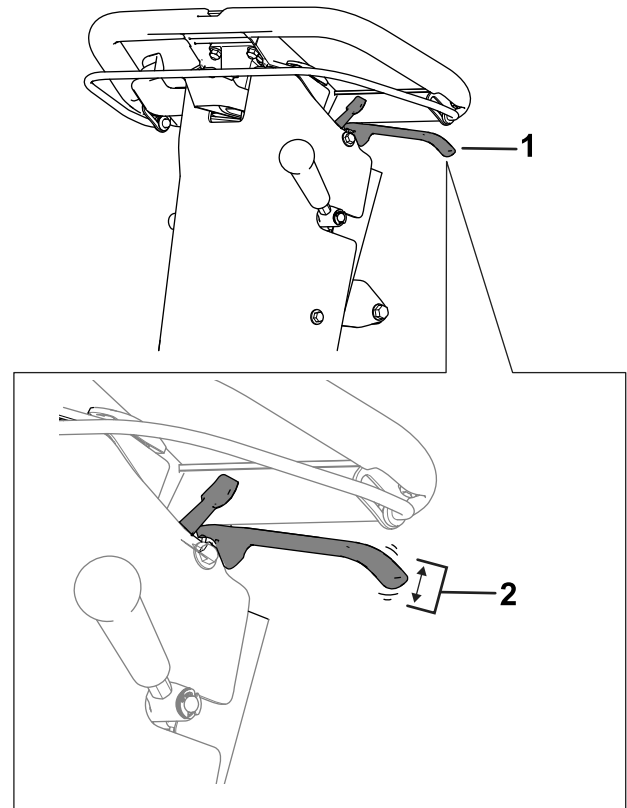

Figure 32
2. Measure the free play at the end of the parking-brake handle (Figure 32).